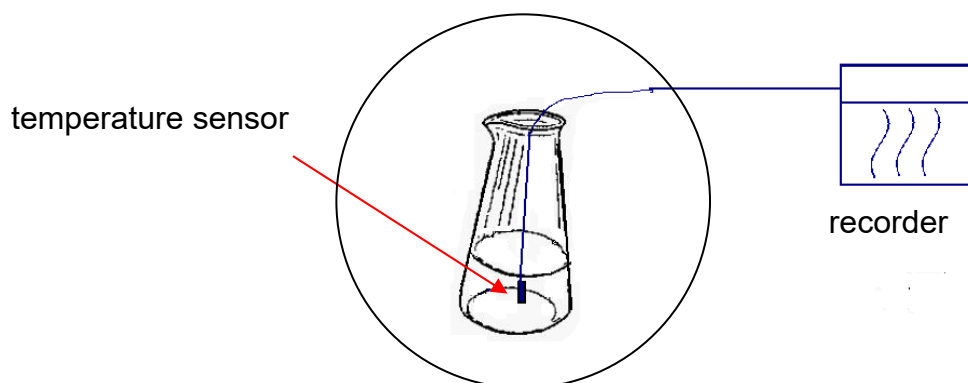

Figure 8
13. An additional temperature sensor and recorder are required for liquid sterilization program as shown in Figure 8.